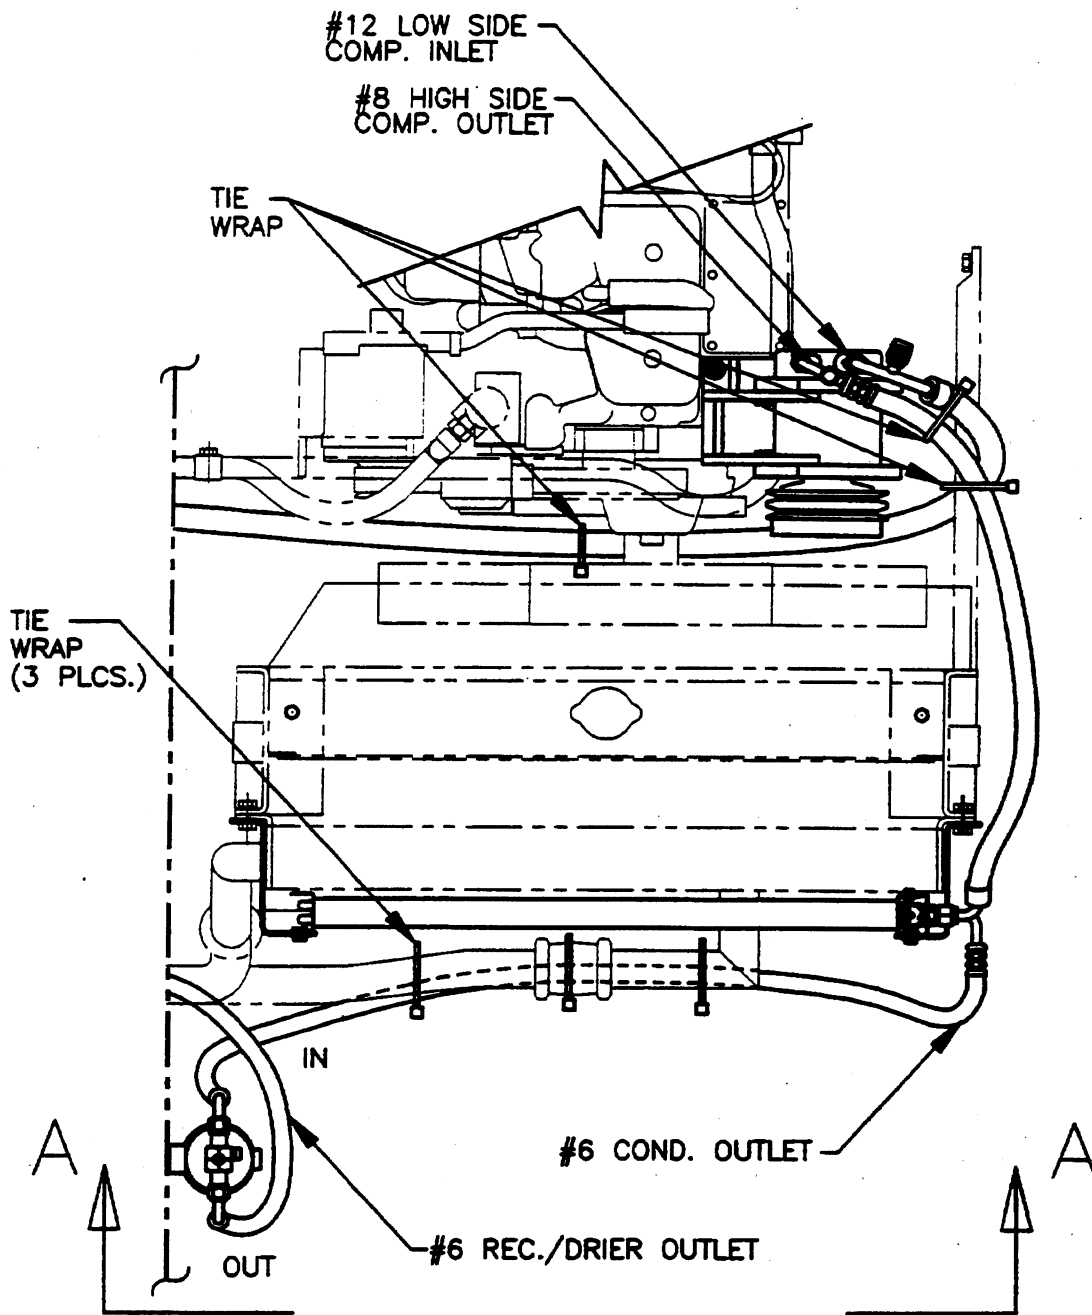

FIGURE 4a
2. For SK200/220 see Figures 4A and 4B.
D. COMPRESSOR MOUNT INSTALLATION for SK100/120/150, SK200/220 (See Figures 4A and 4B).
Note: Some components will vary from vehicle to vehicle but the hose routing will remain the same. See Figures 4A, 4B and 4C for pictorial representation.